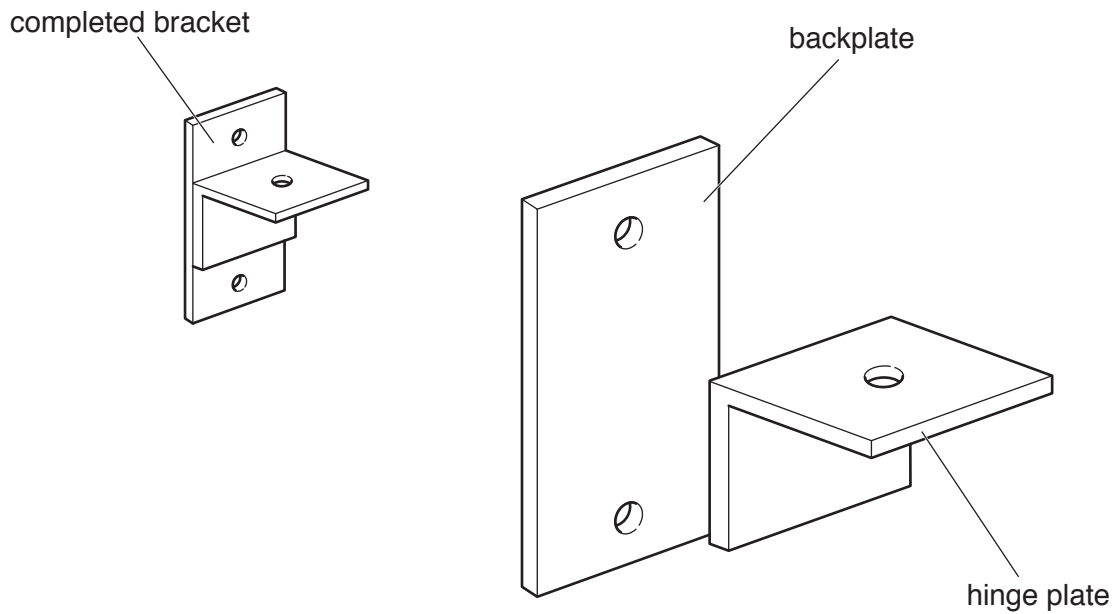

Fig. 1
- 4 Fig. 1 shows a hinge bracket that is made in two parts. Both parts are made from mild steel.